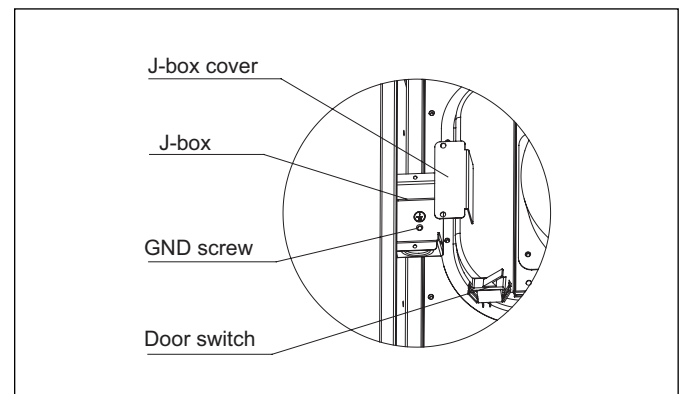

Figure 35 J-Box
1. Remove and save two screws holding J-Box (See Figure 35).
See Fig. 35 on previous page.
4. Remove and save two screws holding J-Box. (See Fig. 35.)